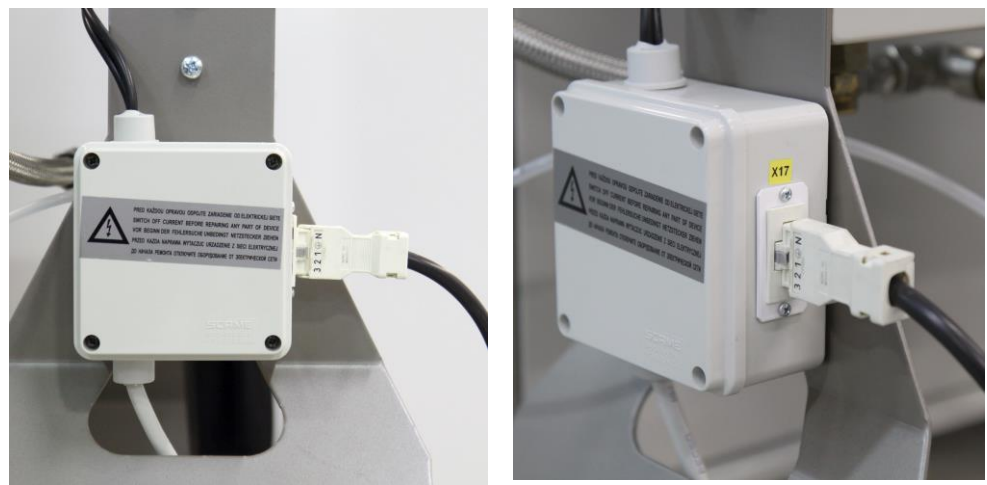

Fig.14
- Connect the compressor module to the dryer module using the W22 cable (Fig. 14).